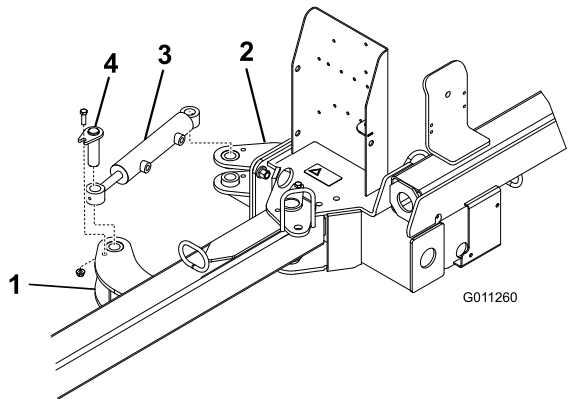

Figure 6
- Secure each end of the hydraulic cylinder to an actuator tab with a pin assembly, a bolt (3/8 x 1-1/4 inch), and a flange nut (3/8 inch) Figure 6).